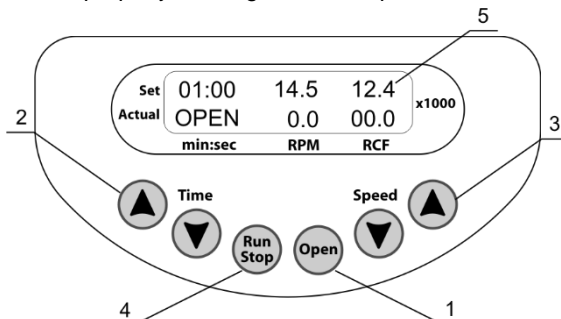
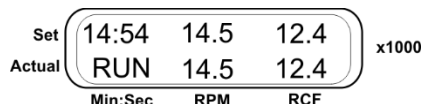

Fig. 5. Control panel
Fig. 7. Control panel in run mode
- 4.3. Press the **Open** key (fig. 5/1) and open the outer lid by lifting it upwards by hand. The display shows OPEN (see figure 5). The lid can be opened only when the rotor is stopped.
- 4.7. Use the ▲ and ▼ **Time** keys (fig. 5/2) to set the required time interval.
- 4.8. Use the ▲ and ▼ **Speed** keys (fig. 5/3) to set the required speed and required centrifugal force, using the centrifugal force readings (fig. 5/5). These parameters can also be adjusted during operation.
- 4.9. Press the **Run Stop** key (fig. 5/4) to start centrifugation. Blinking RUN indication and current speed is displayed in the lower line (fig. 7). The timer in the upper line starts countdown after the set speed is achieved (stable RUN indication).